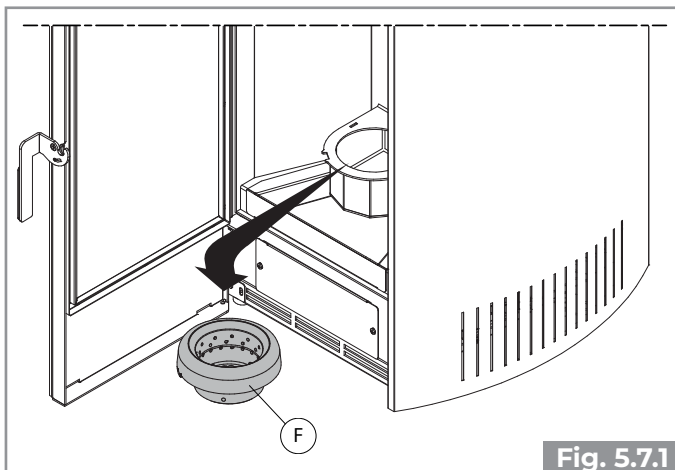
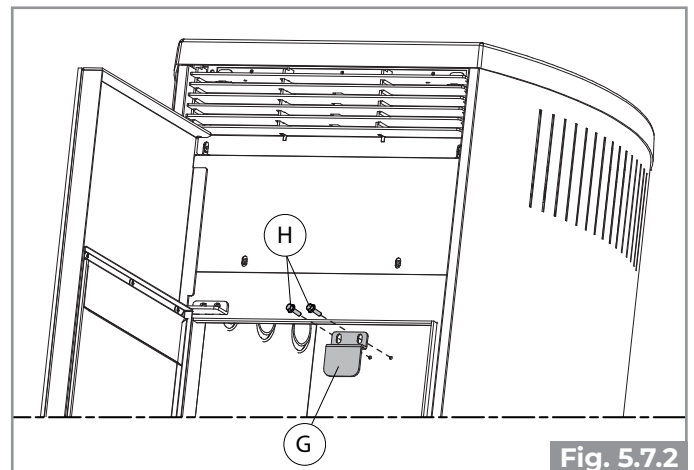

Fig. 5.7.1
Fig. 5.7.2
- Open the door and remove the burnpot F (Fig. 5.7.1) and the mounting bracket G by acting on the two screws H (Fig. 5.7.2);